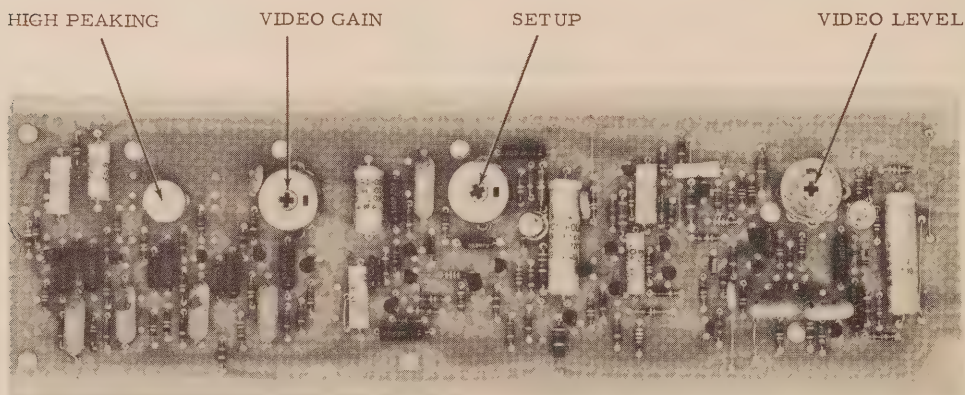

Figure 15.
2. Adjust the VIDEO LEVEL control (see Figure 15) for 0.12 volt p-p of signal at the base of transistor Q6.
picture blacks and blanking level is about 0.2 volt. (See Figures 15 and 16.)
b. Turn the VIDEO GAIN control (see Figure 15) clockwise until the signal at the video output jack reaches 1.7 volt p-p.
4. Adjust the HIGH PEAK trimmer (see Figure 15) so that the monitor picture shows no trailing blacks or whites or the horizontal or mid-frequency bars of the test pattern. The horizontal low or mid-frequency test bars are the heavy, black, horizontal bars at the bottom of the large circle.
(20) Video Output Transistor Check